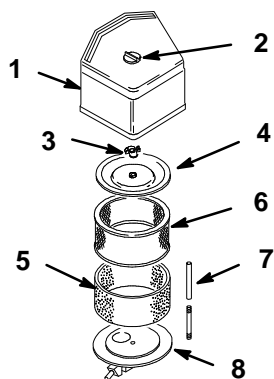

Figure 14
3. Clean around the air cleaner to prevent dirt from getting into the engine and causing damage. Remove knob and the air cleaner cover (Fig. 14).
4. Carefully slide the foam element off the paper element (Fig. 14).
5. Unscrew the cover nut and remove the cover and paper element (Fig. 14).
- 1. Carefully slide the foam element onto the paper air cleaner element (Fig. 14).
- 2. Slide the air cleaner assembly and cover onto the long rod. Now screw the cover nut finger-tight against the cover (Fig. 14).
- 3. Install the air cleaner cover (Fig. 14).